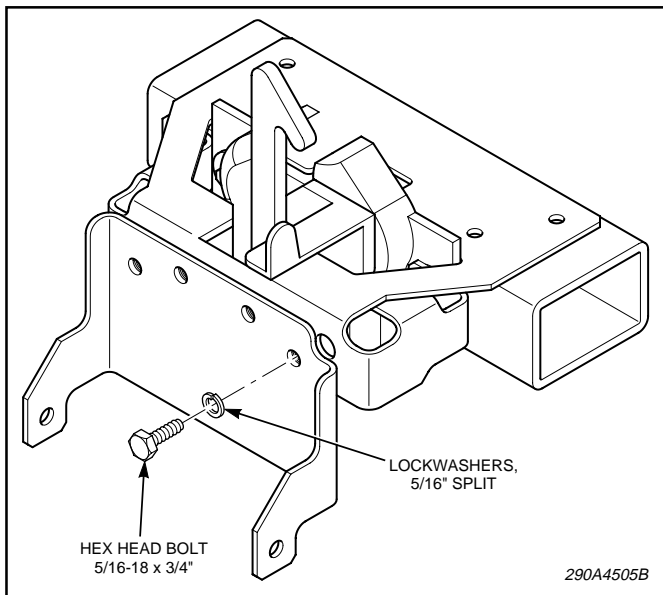

Figure 4.
- h. Attach the front bracket (8567154) to the main bracket (8567153) using four 5/16-18 bolts and split lockwashers. See figure 4.